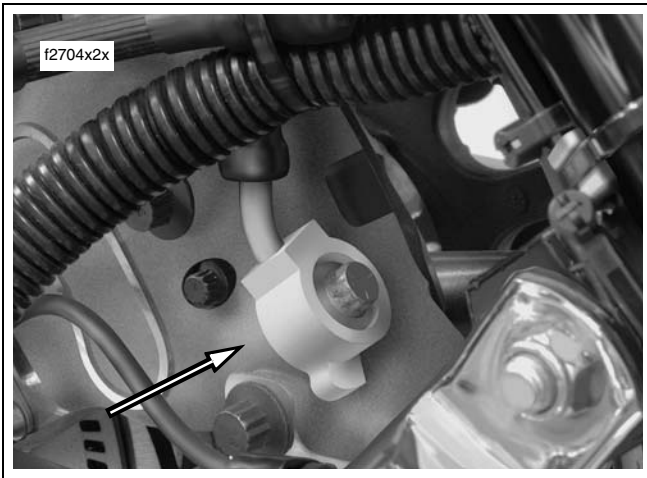

Figure 11. Install Anti-Rotation Clip at Rear Caliper
14. See Figure 11. Install anti-rotation clip over banjo bolt in rear caliper. If necessary, loosen banjo bolt 1/2 turn to properly orient brake line. Holding brake line to prevent rotation, tighten banjo bolt to 17-22 ft-lbs (23.0-29.8 Nm).
19. See Figure 11. Install anti-rotation clip over banjo bolt in rear caliper. If necessary, loosen banjo bolt 1/2 turn to properly orient brake line. Holding brake line to prevent rotation, tighten banjo bolt to 17-22 ft-lbs (23.0-29.8 Nm).
15. See Figure 11. Install anti-rotation clip over banjo bolt in rear caliper to properly orient brake line. Holding brake line to prevent rotation, tighten banjo bolt to 17-22 ft-lbs (23.0-29.8 Nm).